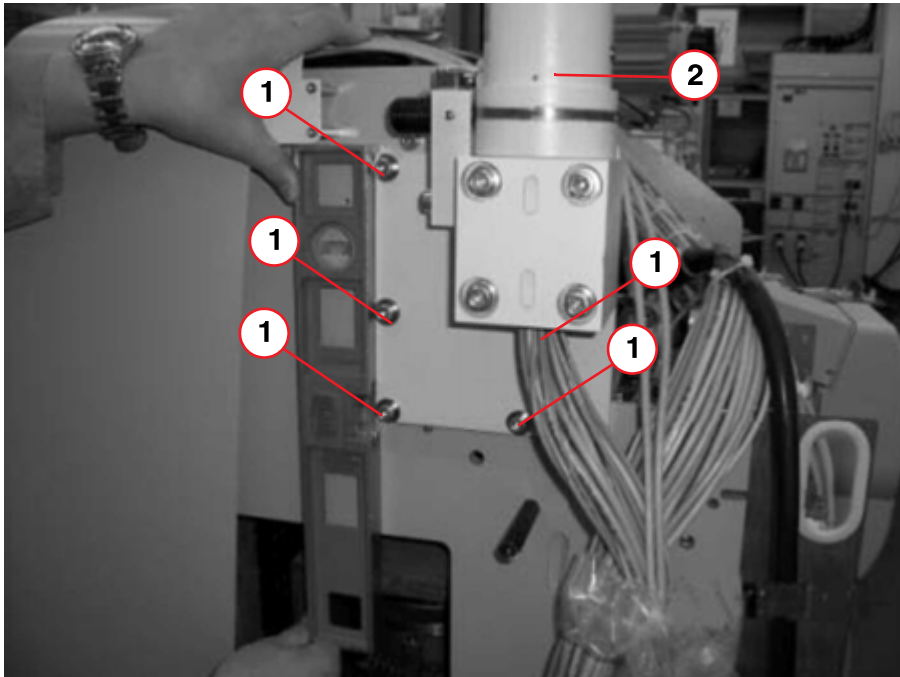

Fig. 47: Support arm connections
- Secure the unit connection of the TFT support arm to the lifting base using the 4 previously removed cylinder-head screws M8 x 25 DIN 912 including washer 8.2 x 20 x 2 (1/Fig. 47 / p. 71).
Use a level to align the unit connection (Fig. 47 / p. 71).